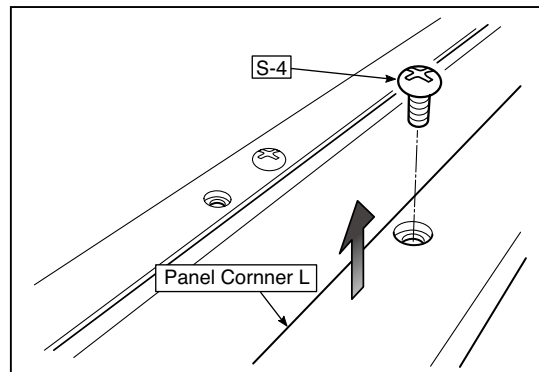

Fig.25
2. Remove the "S-4" and "S-7" screws shown in the figure 25 and then remove the Panel Corner (L).